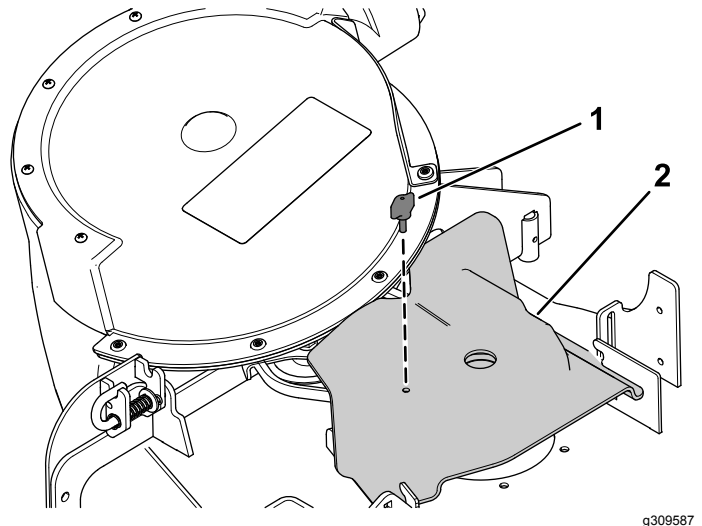

Figure 47
2. Install the blower-belt cover over the blower belt and secure the blower-belt cover with the knob (Figure 47).